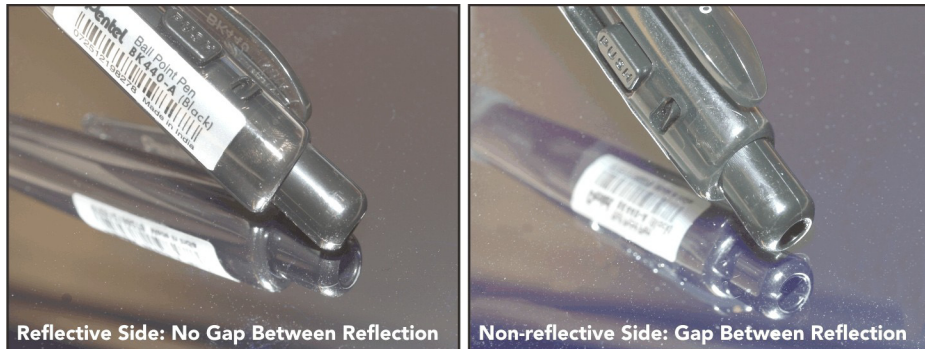

Figure 5-73 Installing Cold Mirror
7. Reverse the above steps to install the cold mirror. **NOTE:** *When installing, ensure that the reflective surface faces inwards (Figure 5-73).*